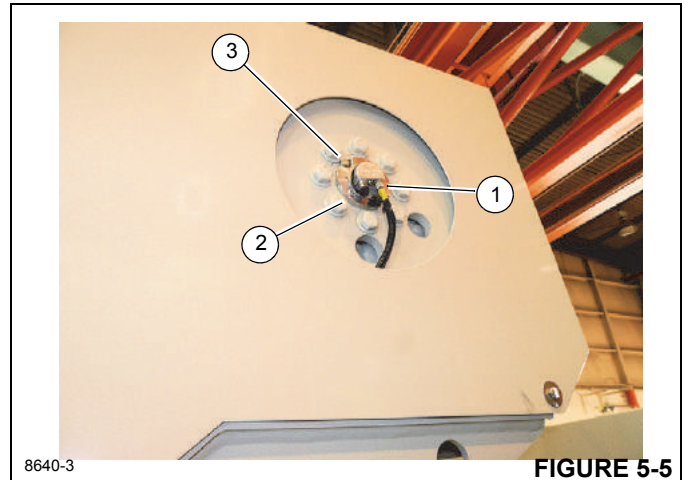

FIGURE 5-5
2. Remove the drum rotation indicator (DRI) cable (1, Figure 5-5) from the hoist drum.
1. Loosen the collar on the connector and unplug the DRI cable (1, Figure 5-5).
2. Remove the two retaining screws (2).
5. Push the DRI into the drum so that the notch is lined up with the breather (3, Figure 5-5).
6. Secure the DRI with the retaining screws (2, Figure 5-5).